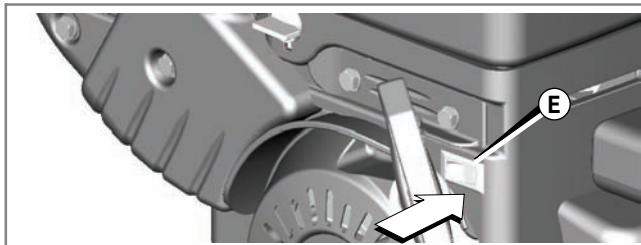

Figure 6
- Push the stop switch (E), if equipped, to the on position (Figure 6).